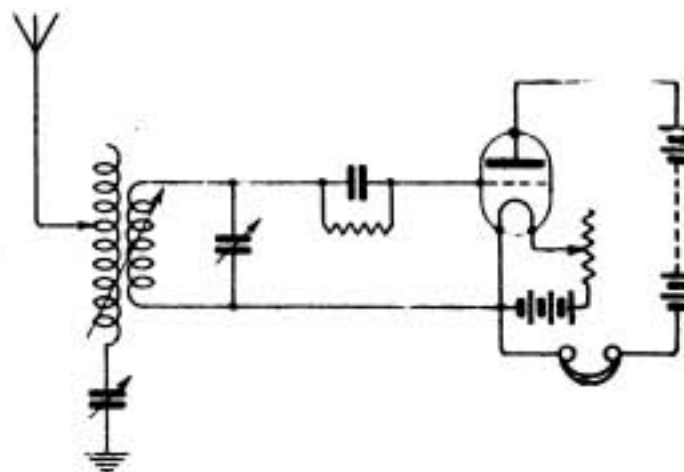
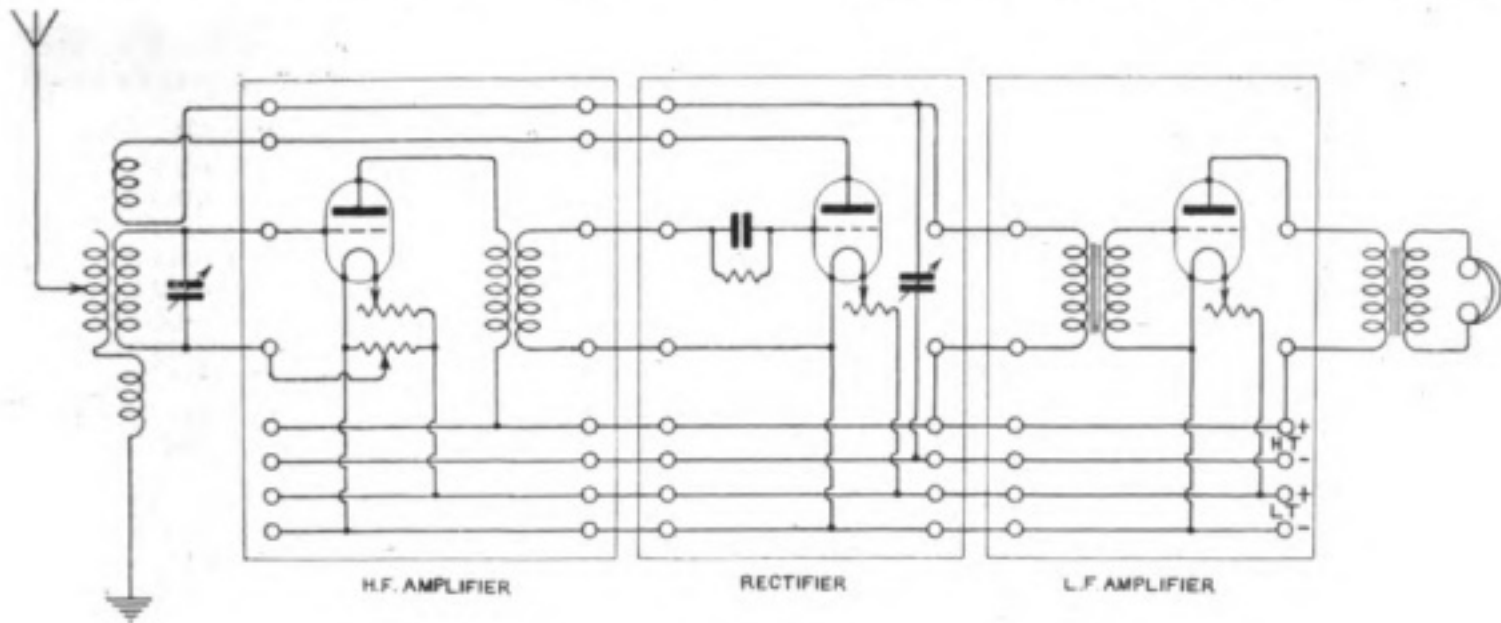

Fig. 1.
Fig. 6.
(1) See diagram (Fig. 1). (2) See reply to "Radio 3 UC" in the August 5th issue.
(1) See Fig. 1, page 435, issue for July 1st, but note that reaction as shown in this diagram is no longer to be allowed. (2) Three coil holders will be required for a reaction set, but reaction of this sort, capable of energising the aerial, is no longer to be allowed, and a two coil holder will therefore be all that you require. (3) See diagram (Fig. 6).
(1) See diagram on page 435, Fig. 1, July 1st issue, omitting reaction coil there shown, which is no longer allowed by the P.M.G. (2) With plates of this size almost 200 would be required. (3) Yes.
"F.C.K." (South Norwood).—(1) The first circuit shown is the better of the two, and not at all bad, but it has no advantages of the normal type illustrated, for instance, in Fig. 6, page 437, July 1st issue. (2) If the normal type referred to is used, the A.T.I. for 3,000 metres may be $9'' \times 6''$ of No. 22. A somewhat larger coil would be required for this wavelength with the arrangement you suggest.